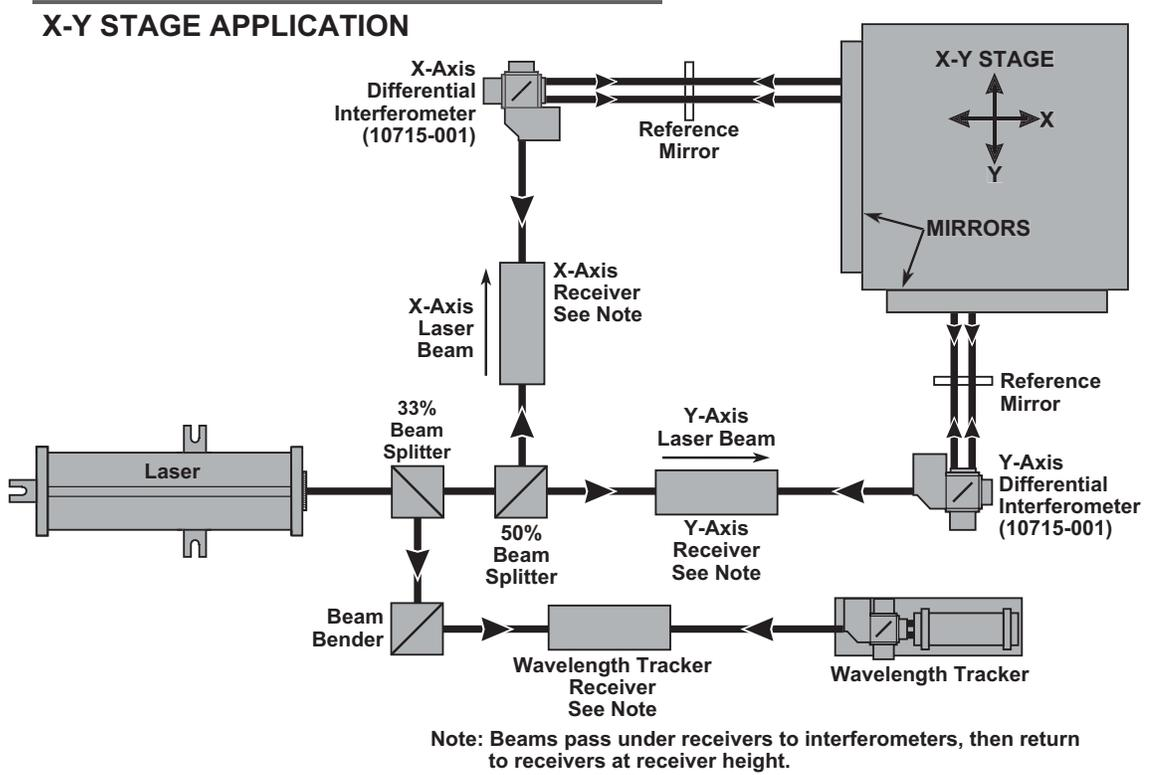

Figure 165 Two-axis differential interferometer with wavelength tracker
**Figure 165** shows an X-Y stage application using a Wavelength Tracking Compensation system. The components that comprise the Wavelength Tracking Compensation system are: